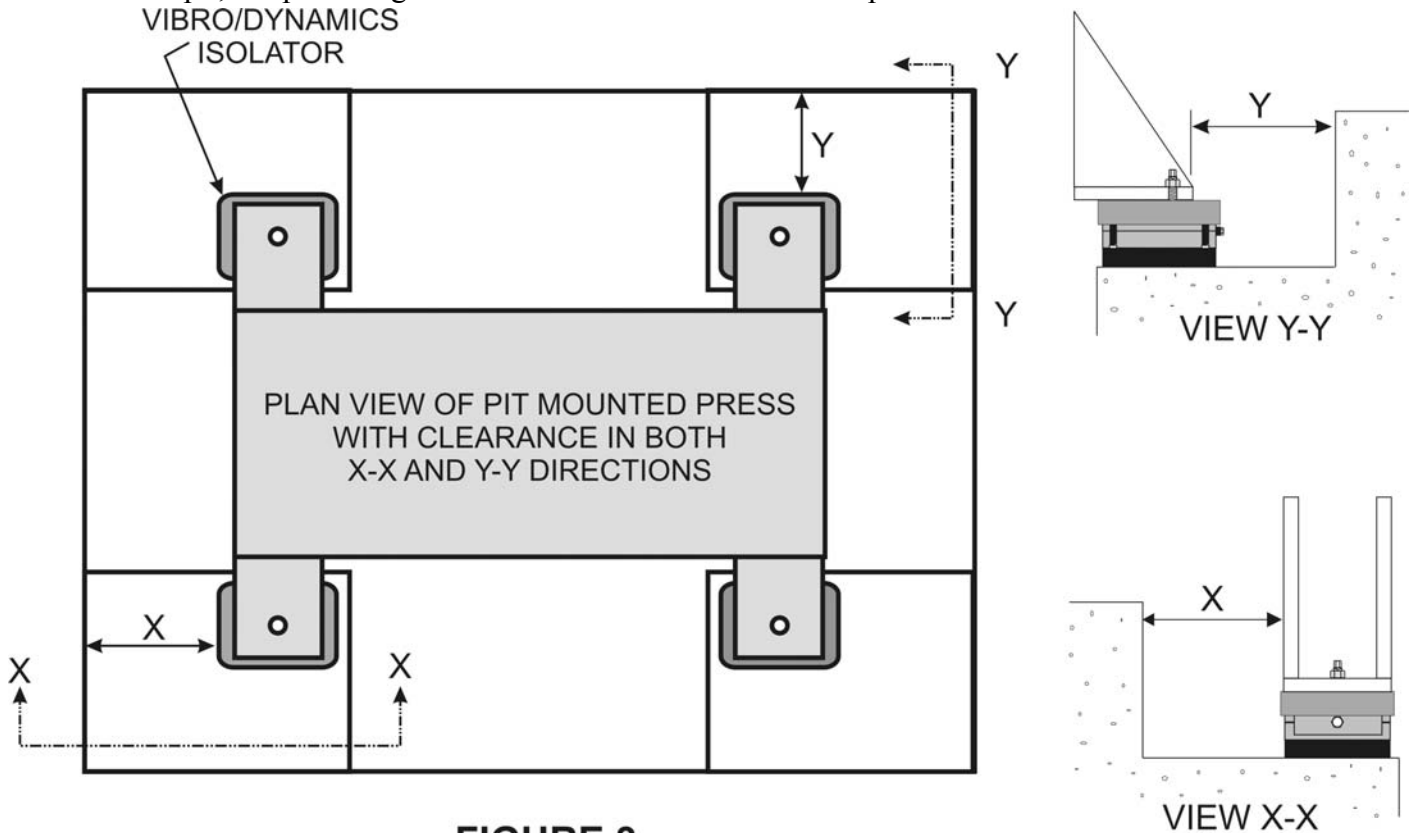

FIGURE 3
- 6) Clearance should be provided in at least one direction (X or Y) to allow for the installation and removal of the isolators. Please note the orientation of the isolators. See Figure 3 and Table 1.